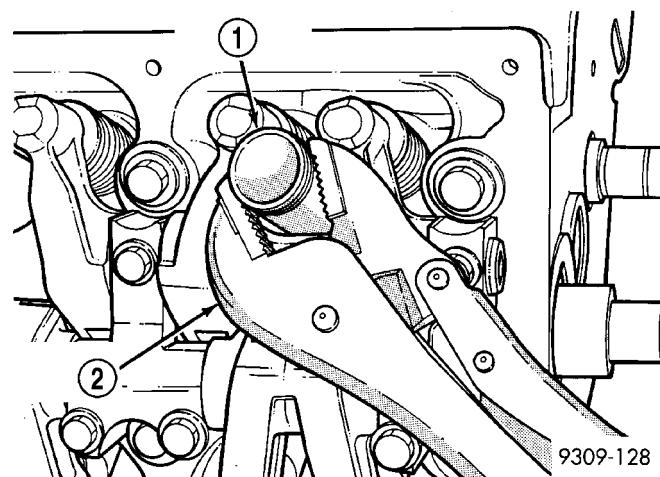

Fig. 46 Servicing Spark Plug Tubes
(1) Remove cylinder head cover(s). (Refer to 9 - ENGINE/CYLINDER HEAD/CYLINDER HEAD COVER(S) - REMOVAL)
(2) Using suitable locking pliers, remove the tube from the cylinder head (Fig. 46) and discard tube.
(3) Clean area around spark plug with Mopar® Parts Cleaner or equivalent.